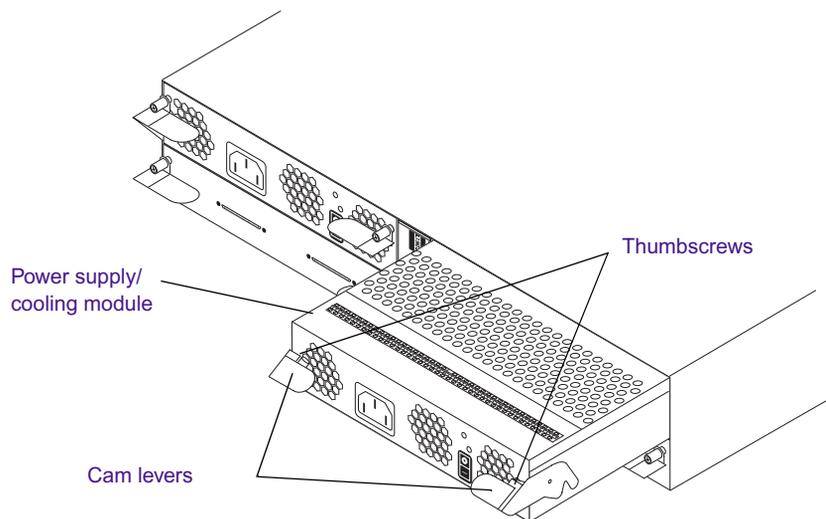

Figure 12 Removing the Power Supply/Cooling Module
1. Using a Phillips screwdriver, loosen the two thumbscrews attached to the power supply/cooling module (see Figure 12).